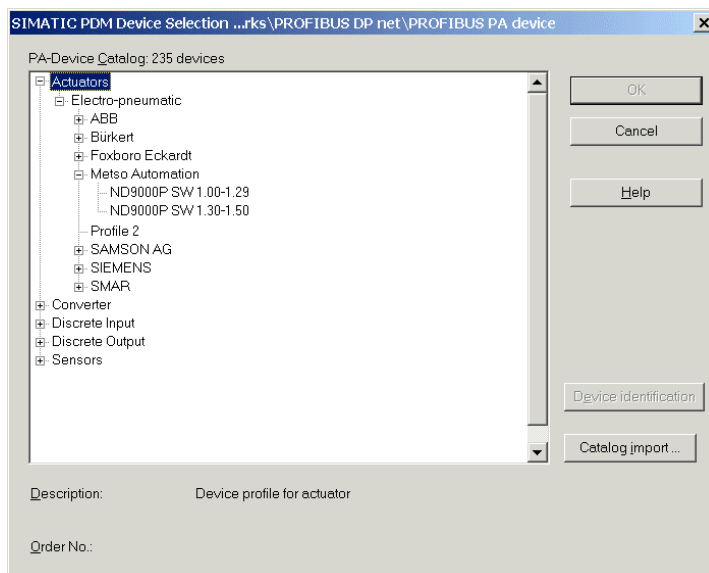

Figure 4. Simatic PDM PA-Device Catalog.
4. After successful installation, ND9000P objects should be listed in the Simatic PDM PA-Device Catalog, see figure 4.